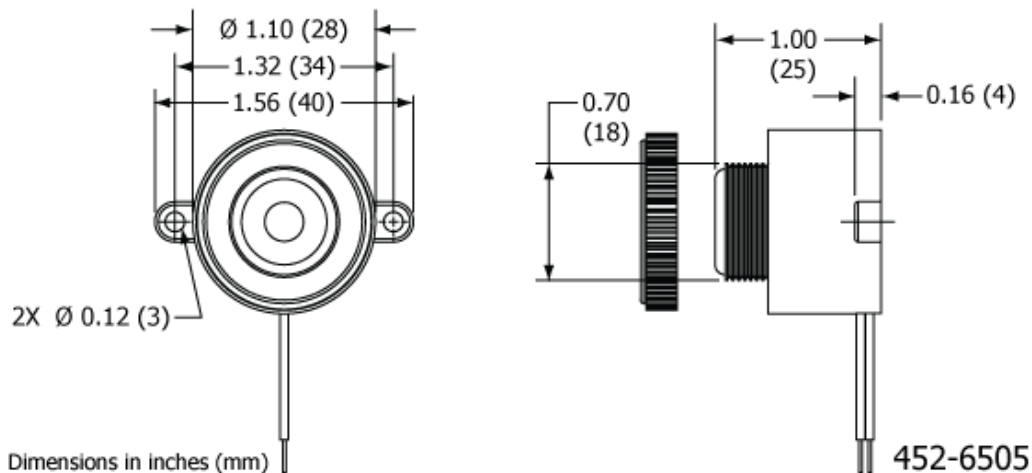

Figure 16 Buzzer Outline and Dimensions
- 2) Fabricate a support bracket for the buzzer. See Figure 16 Buzzer Outline and Dimensions.